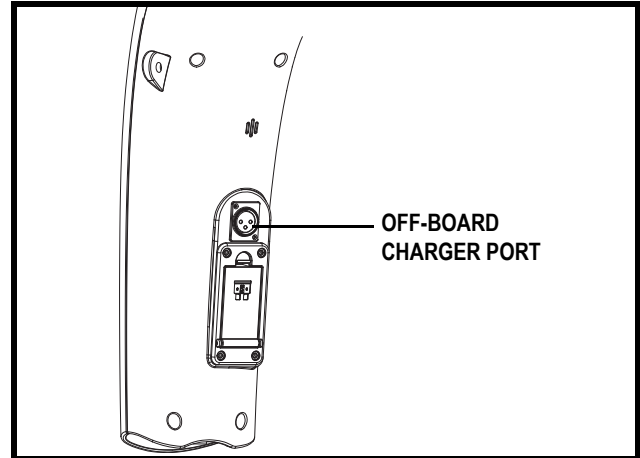

Figure 5. Off-board Charger Port (Tiller Mounted)
The off-board charger power cord plugs into this port during battery charging. The off-board charger port will be located on the tiller. See figure 5.
4. Plug the 3-pin charger power cord into the off-board charger port. See figures 5 and 10.